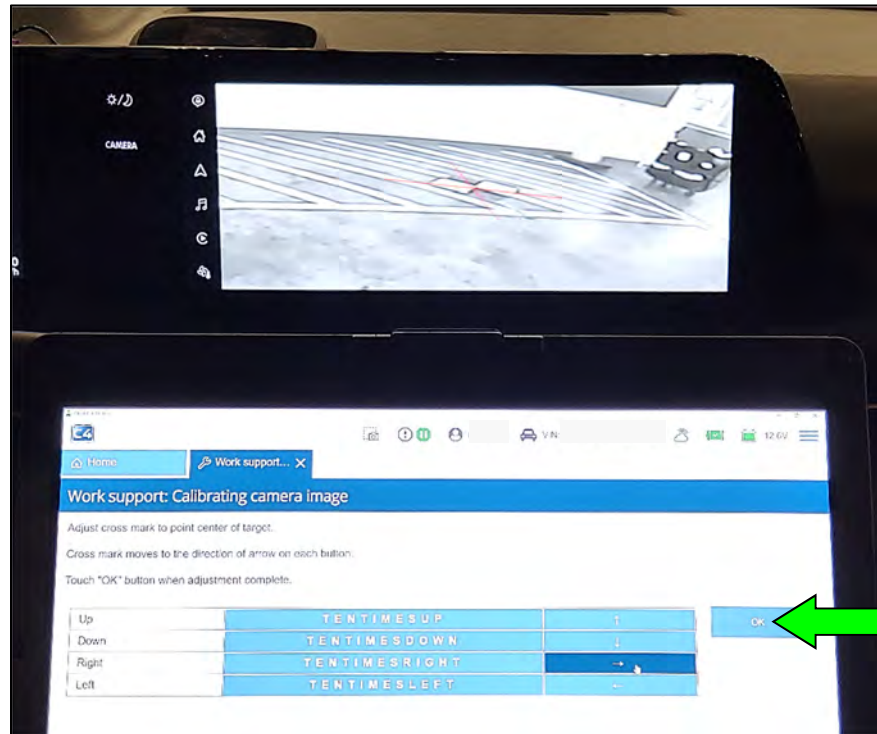

Figure 119
83. When the center of the red crosshair is in the center of the calibration target, select **OK** (Figure 119).
84. Repeat steps 81 - 83 starting on page 63, for all seven (7) targets, and then select **mm**.